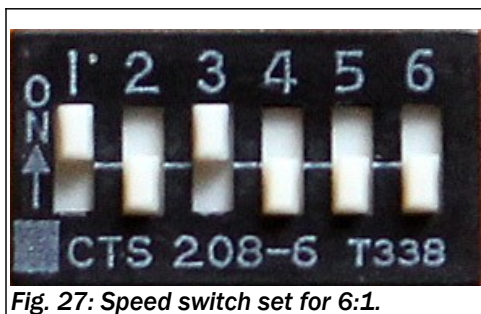

Fig. 27: Speed switch set for 6:1.
- ☐ With power on and the clock running, select a 6:1 speed on S1, as shown here in Fig. 27 (#1 and #3 **on**, #2, #4, #5, #6 **off**).